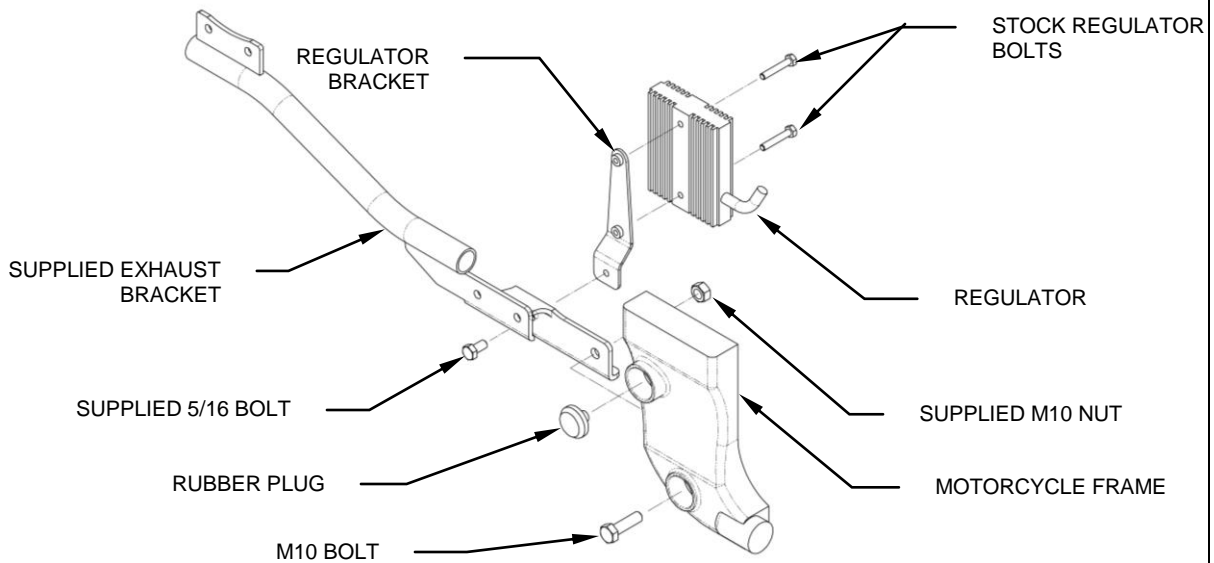

FIGURE 1
4. Mount the regulator to the supplied regulator bracket as shown in figure 1.
5. Mount exhaust bracket supplied to the lower inside exhaust mount on the frame and start supplied M10x40mm bolt through outside of frame and start the supplied M10 lock nut onto the bolt (see figure 1). **DO NOT TIGHTEN at this time.**
6. Attach the regulator bracket assembly from step 4 to inside of exhaust bracket with one 5/16 supplied bolt and tighten. (See figure 1)
11. Make sure the mufflers are parallel to each other and tighten the M10 bar mount bolt and then the 5/16 bolts on the back of each muffler. Tighten the clamps on the front of each muffler. Place the supplied plastic plug into exposed bolt hole on the frame (see figure 1).